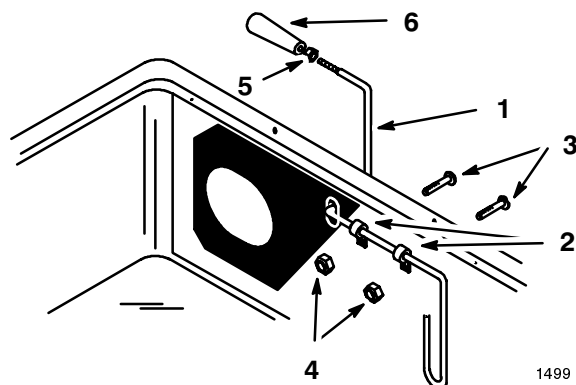

Figure 8
1. Install the "full-bag" indicator rod through the hole in the rubber seal and the slot in the bagger cover (Fig. 8). Mount the full-bag indicator rod against the bagger cover using two clips, 1/4 x 3/4" (19 mm) screws, and 1/4" locknuts (Fig. 8).
2. Screw the jam nut completely onto the indicator rod (Fig. 8). Then screw the handle (Fig. 8) close to the jam nut and position so you can read the decal from the operator's position. Tighten the jam nut up against the handle to lock it in place.